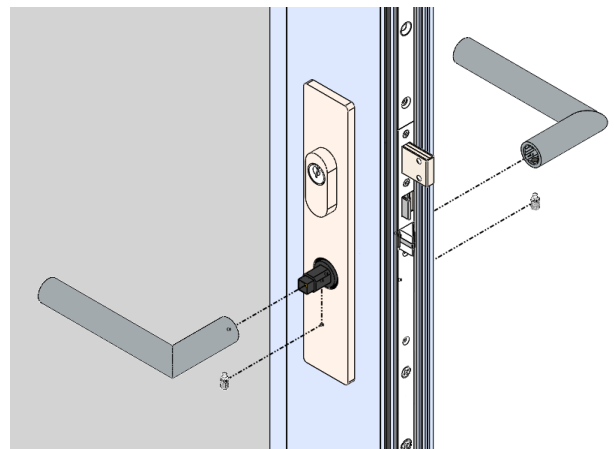

Figure A2:
1. Using a 3mm Hex Key, completely remove the set screw on the underside of the handle (Figure A2).